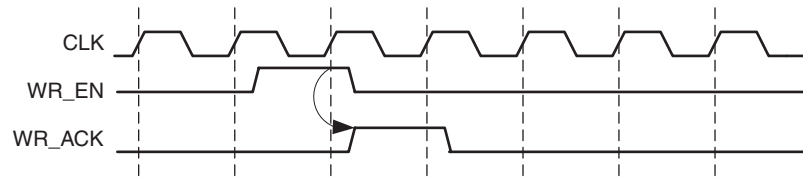

Figure 4-35: Latency 0 Timing
**Note:** Latency is defined as the number of clock edges after a read or write operation occur before the signal is updated. Example: if latency is 0, that means that the signal is updated at the clock edge in which the operation occurred, as shown in Figure 4-35 in which WR\_ACK is getting updated in which WR\_EN is high.